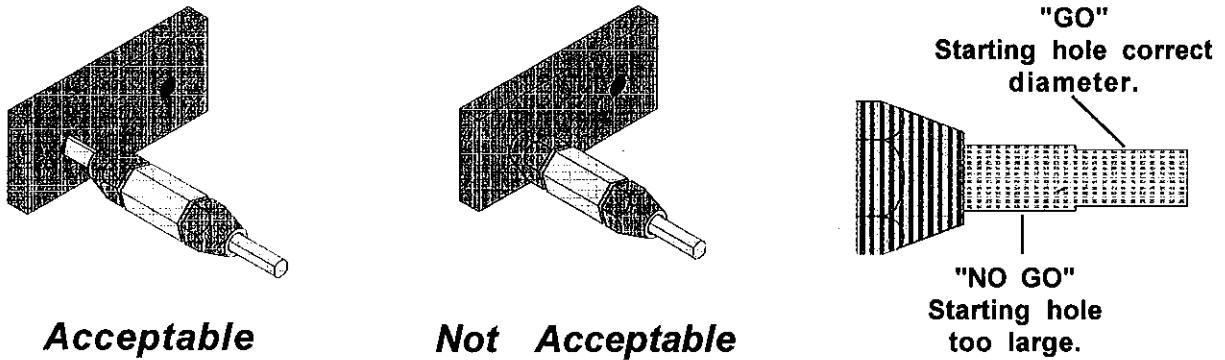

Figure 9
10. Verify starting hole diameter (SHD) using the stepped go/no-go end of combination gage. (Figure 9)